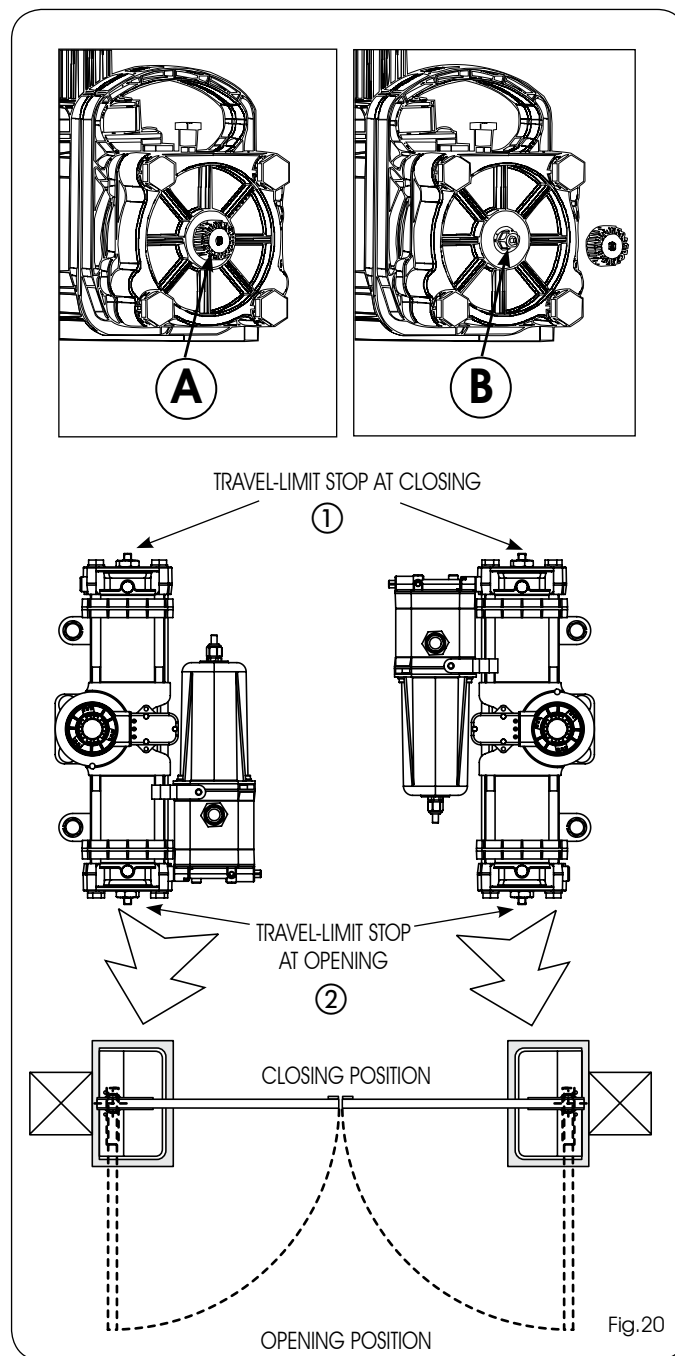

Fig.20
- 3) Unscrew the cap (Fig. 20 ref.A) of the closing travel-limit screw (Fig. 20 ref.①)
- 4) Unscrew the travel-limit stop screw (Fig. 20 ref.B) at closing (Fig.20 ref.①), until the leaf begins to move.
- 7) CREW the cap of the screw of the opening travel-limit stop (Fig.20 ref.②).
- 8) UNSCREW the travel-limit stop screw (Fig.20 ref. ②), until the leaf begins to move.